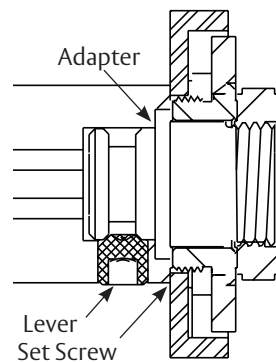

Figure 14
3. Pull on lever to test if set screw is properly secured. (Figure 14)